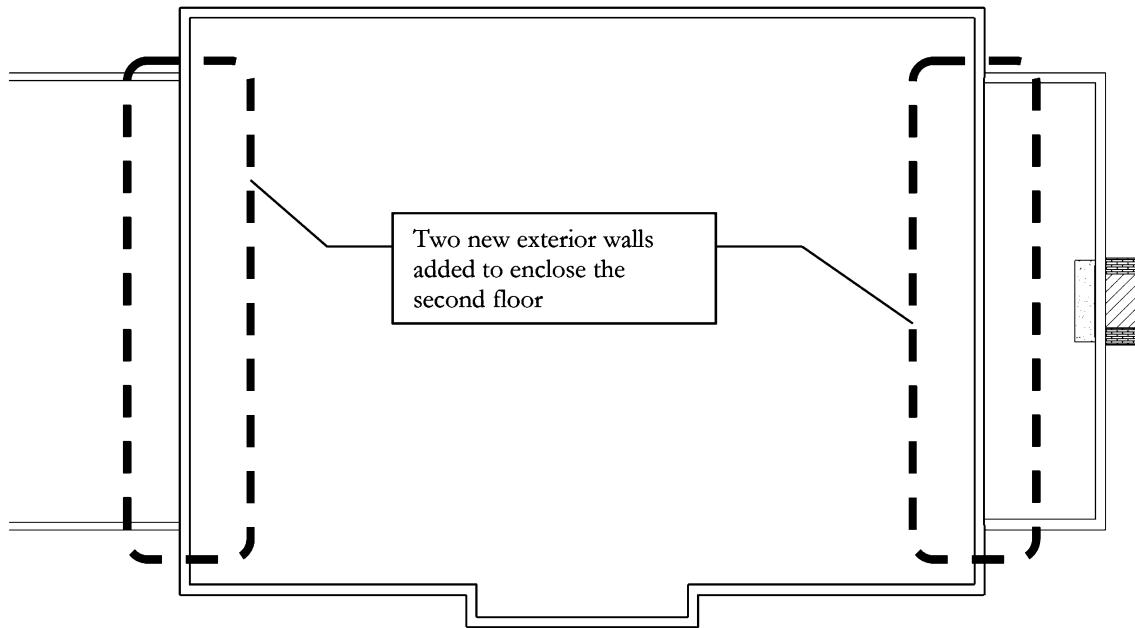

FIGURE 6-1.4 Second Floor: two exterior walls added
4. Draw the two walls as shown in Figure 6-1.4, using the following information: